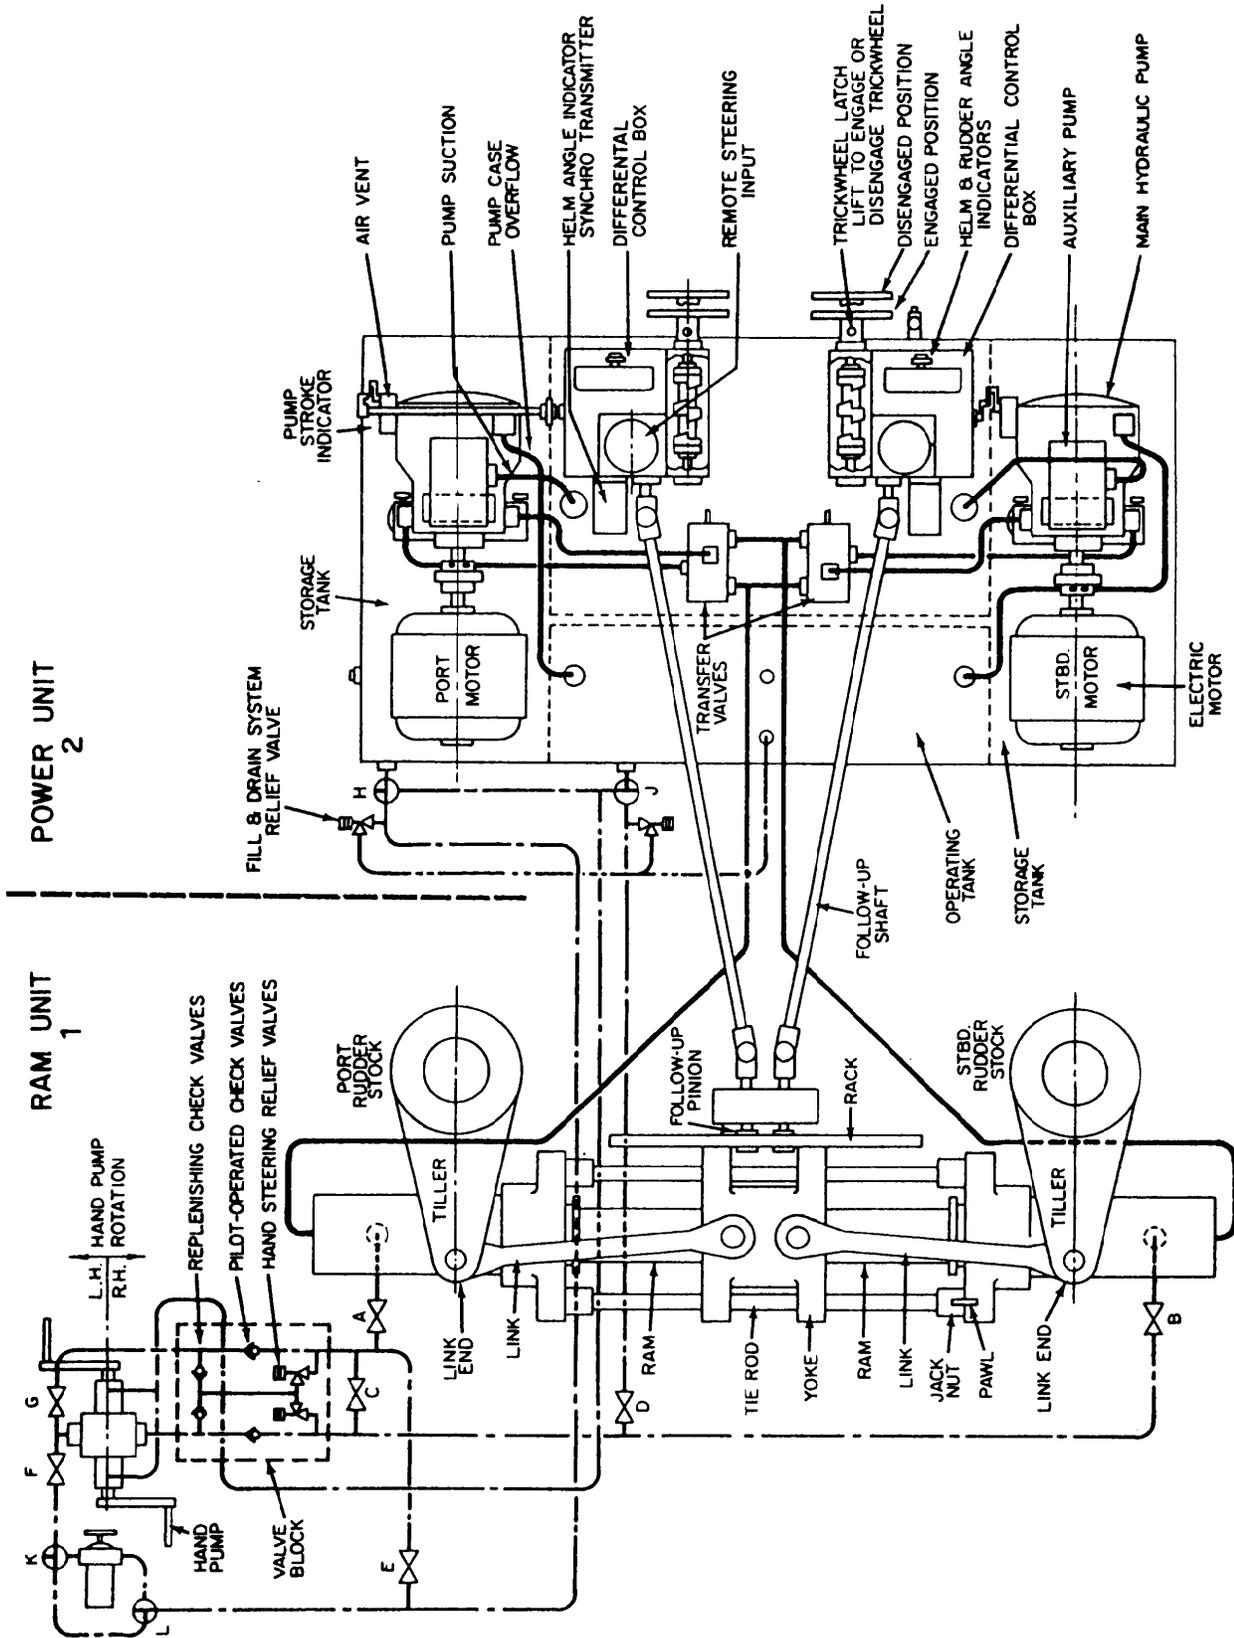

Figure 14-2.—Electrohydraulic steering gear.
Many different designs of steering gear are in use, but the principle of operation for all of them is similar. One type of electrohydraulic steering gear is shown in figure 14-2. It consists essentially of (1) a ram unit and (2) a power unit.